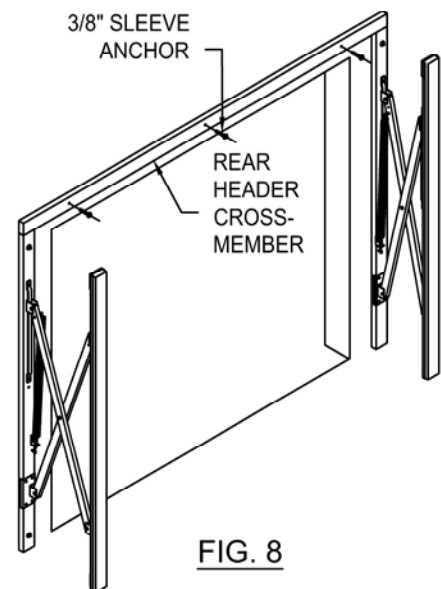

FIG. 8
- \* Position rear header cross-member into place (figure 8).
- \* Insert 3/8" sleeve anchors and tighten with 1/2" socket wrench (fig. 8).